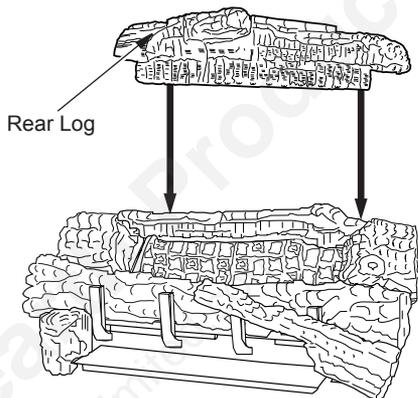

Figure 46 - Installing Rear Log
9. Rest the rear log (18" D-069, 24" & 30" D-043) on the chassis behind the rear burner as shown in Figure 46. The bottom of the rear log will sit into the rear log supports.